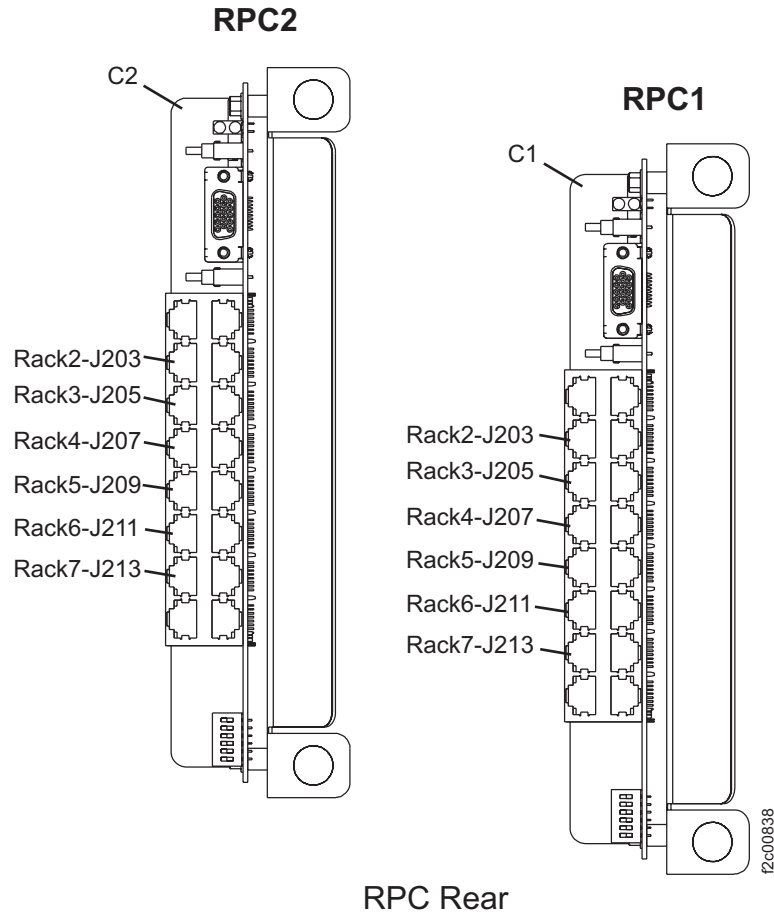

Figure 85. RPC card locations
3. Connect the power control cables into the RPC connector as indicated in Table 21 on page 101 and Figure 85 on page 101.